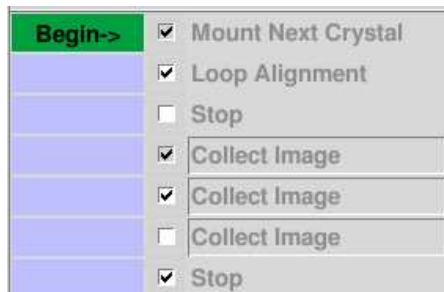

Figure 31: Screening sequence.
1. Mount the sample (either manually (section 3.3) or using the robot. If you use the robot, select the sample in the sample information list in the Blu-Ice Screening tab and select the **Stop** immediately following **Loop Alignment** in the Action sequence widget (fig.31); then click the Start button.